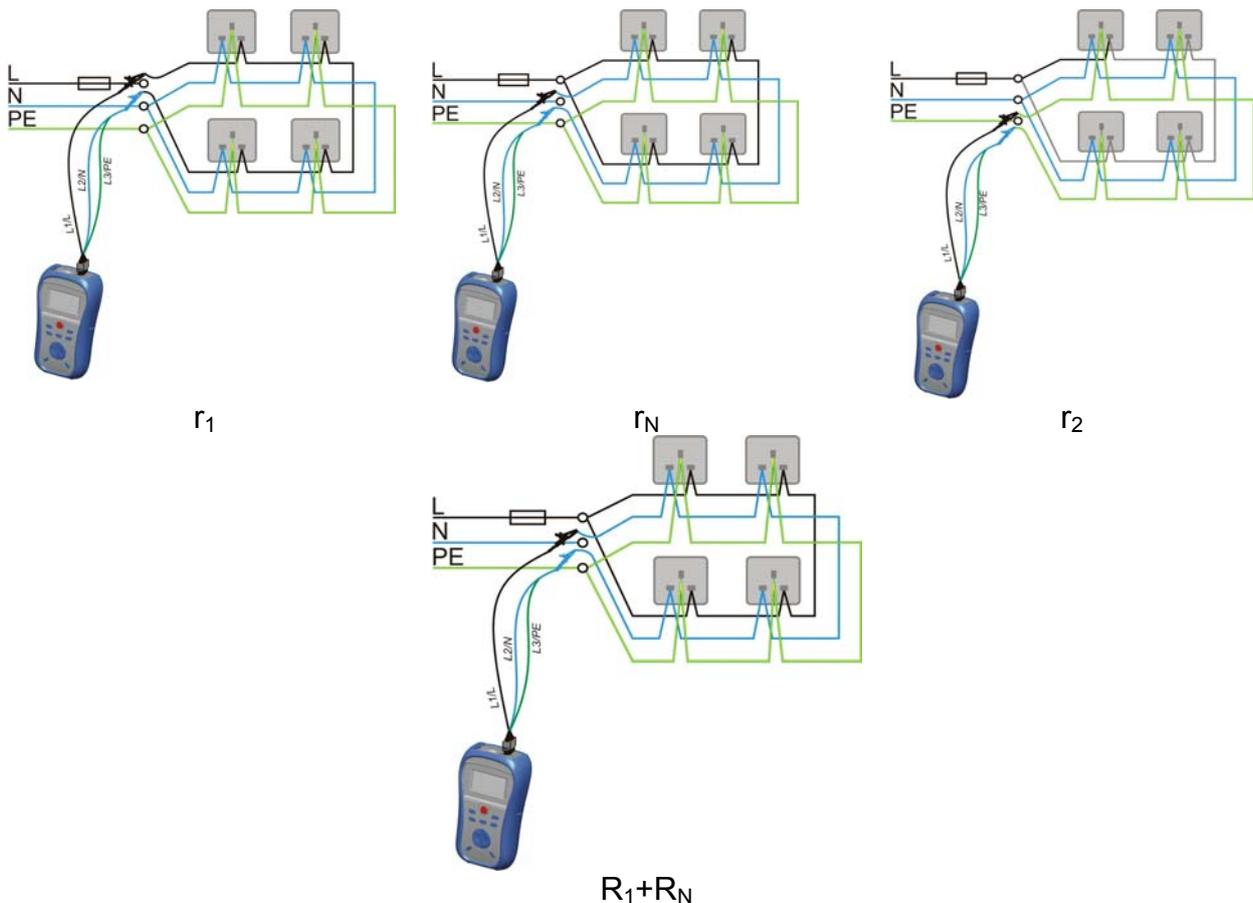

Figure 5.9: Connections for testing the r₁, r_N, r₂ and R₁+R_N sections of the wiring in ring circuits
- ❑ **Connect** the test leads to the appropriate PE wiring (see *figures 5.9 and 5.10*).